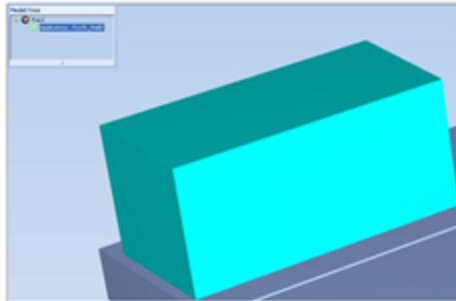

Figure 5-33 Model displayed with bounding box
- ☐ With a *Bounding Box* (see Figure 5-33 on page 5-35)